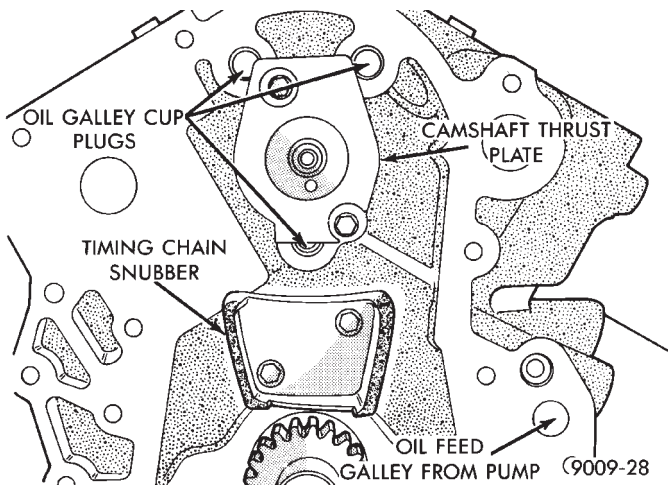

Fig. 10 Camshaft Thrust Plate
- (1) Remove rocker arm and shaft assemblies.
- (2) Remove push rods and tappets; identify so each part will be replaced in its original location.
- (3) Remove camshaft thrust plate (Fig. 10).
- (4) Install a long bolt into front of camshaft to facilitate removal of the camshaft; remove camshaft, being careful not to damage cam bearing with the cam lobes.
- (2) Install camshaft thrust plate with two screws as shown in (Fig. 10). Tighten to 12 N•m (105 in. lbs.) torque.
- (3) Place both camshaft sprocket and crankshaft